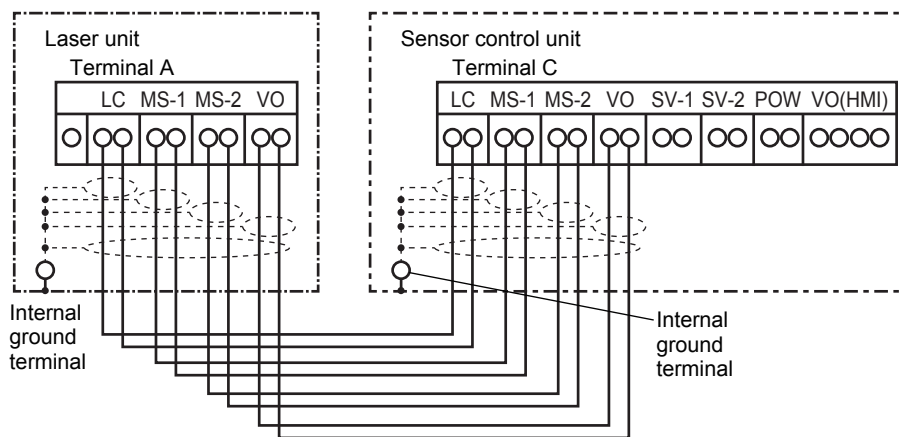

Figure 3.14 Connecting between the Sensor Control Unit (SCU) and Laser Unit (LU)
- (1) Connect pairs 1 to 4 of the inter-unit cable to terminal A of the laser unit. Use black/white AWG18 for inter-VO terminal connections.
- (2) Connect the shielded wire to the ground terminal inside the laser unit.
- (3) Attach the supplied ferrite clamp to the cable as shown in Figure 3.14.
- (4) Connect pairs 1 to 4 of the inter-unit cable to terminal C of the sensor control unit. Connect the positive terminal of the LU side to the positive terminal of the SCU side and the negative to the negative.
- (5) Like the laser unit, connect the shielded wire to the ground terminal inside the sensor control unit.
- (6) Within the SCU and LU, attach the supplied ferrite clamps to the cable as shown in Figure 3.14. Be sure to attach them on both sides (SCU and LU).